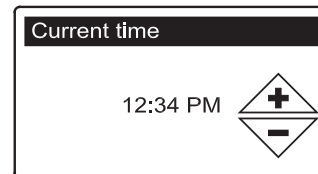

FIG. 18
- CURRENT TIME** Press the DOWN (▼) or UP (▲) buttons to set the current time (See Figure 18). Hold the button down to rapidly advance. Be sure that AM or PM is correct. If the system units were set to metric in Step 17, the clock will be in 24-hour format.
- Press the SELECT (O) button.